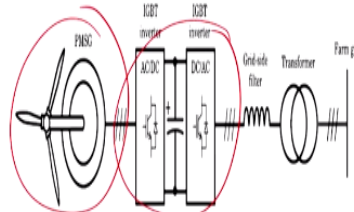

Fig.2: The gearless PMSG wind generator concept
- The PMSG configuration needs a full power converter and allows the use of multipolar generators making it possible to suppress the gearbox (see Fig. 2).